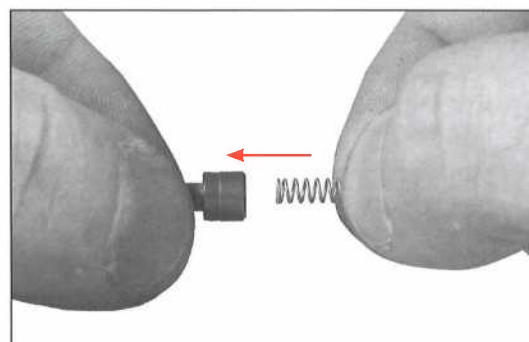

Fig. 32
- If the spring should become separated from the safety, merely press either end back into its receptacle in the bottom of the safety. Compress the spring fully and turn it $\frac{1}{4}$ turn counter clockwise. When the spring is released, it should be reattached to the safety. If the spring is not firmly attached, it may fall into the recess and not provide proper spring tension to the safety. (Fig. 32/33)